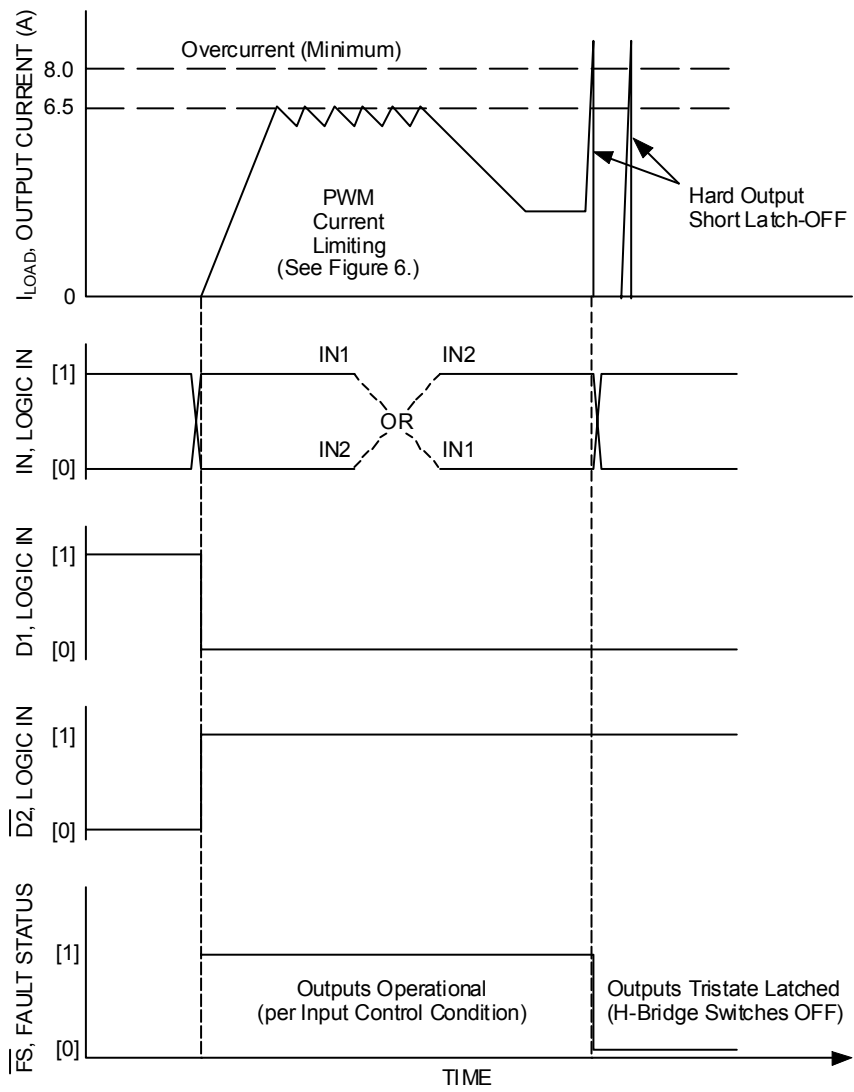
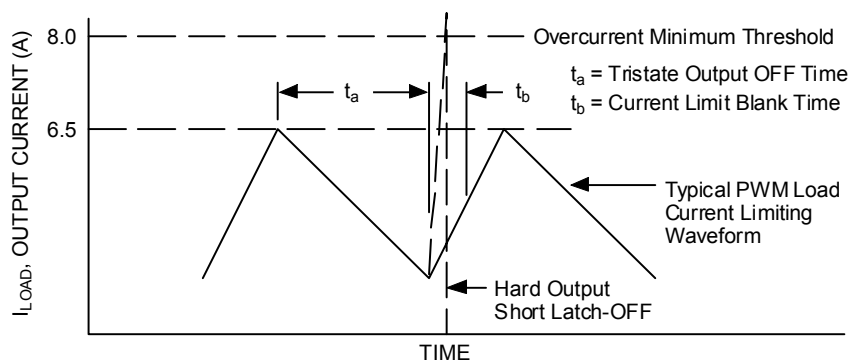
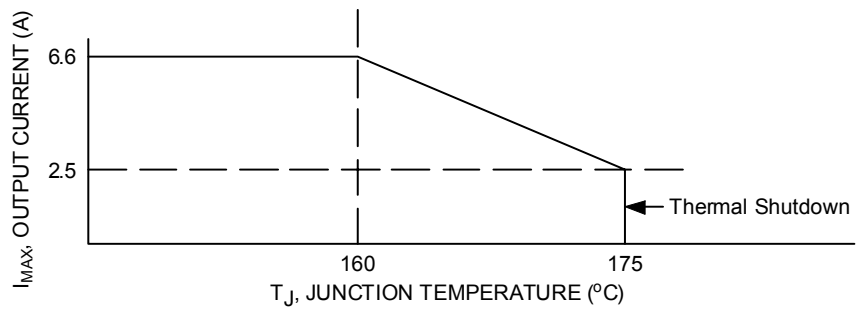

Figure 5. Output Load Current Limiting Versus Time
Figure 6. PWM Current Limiting Detail
Figure 7. Maximum Output Current Limiting Versus Temperature
- Increasing output currents will become limited at 6.5 A. Hard shorts will breach the 6.5 A limit, forcing the output into an immediate tristate latch-OFF. See Figure 5 and Figure 6. Output current limiting will cause junction temperatures to rise. A junction temperature above 160°C will cause the output current limit to progressively "fold-back" or decrease to 2.5 A typical at 175°C where thermal latch-OFF will occur. See Figure 7.
A disable timer (time t_b) incorporated to detect currents that are higher than current limit is activated at each output activation to facilitate detecting hard output short conditions. See Figure 6.
The maximum current flow under normal operating conditions is limited to I_{MAX} (6.0 to 8.5 A). When the maximum current value is reached, the output stages are tristated for a fixed time (t_a) of 20 μ s typical. Depending on the time constant associated with the load characteristics, the output current decreases during the tristate duration until the next output ON cycle occurs. See Figure 6.
The PWM current limitation value is dependent upon the device junction temperature. When $-40^\circ\text{C} < T_J < 160^\circ\text{C}$, I_{MAX} is between 6.0 and 8.5 A. When T_J exceeds 160°C , the I_{MAX} current decreases linearly down to 2.5 A typical at 175°C typical (or where the device reaches T_{LIM}) and overtemperature shutdown occurs. See Figure 7. This feature allows the device to remain operational for a longer time but at a regressing output performance level at junction temperatures above 160°C .